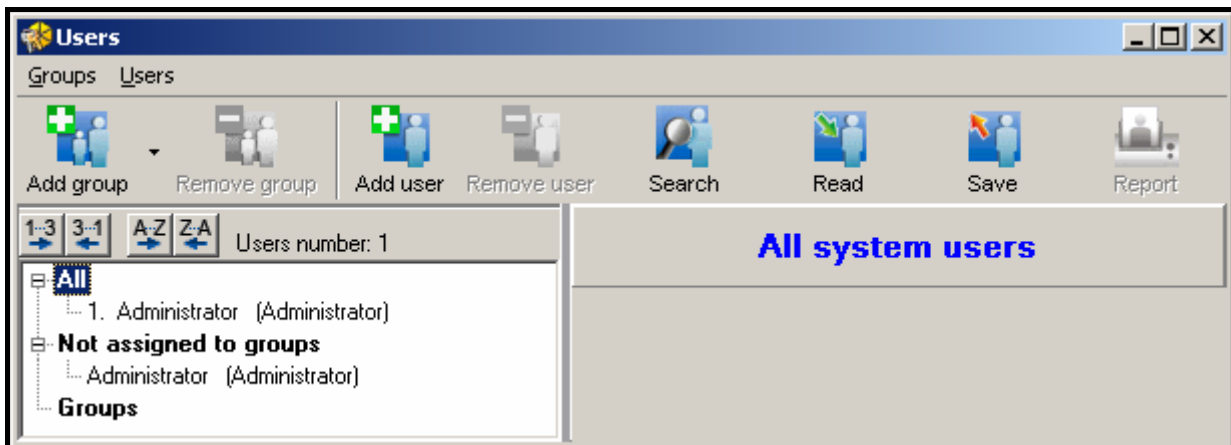

Fig. 24. View of the USERS window before adding the users.
1. Click with your mouse cursor on the button designated USERS, which is available on the program menu bar (see Fig. 22). The USERS window will be displayed (see Fig. 24).
20. End the procedure of user adding by clicking on the SAVE button (see Fig. 24).
1. Click with your mouse on the button designated USERS, available on the program menu bar (see Fig. 22). The USERS window will open (see Fig. 24).
1. Click your mouse on the USERS button on the program menu bar (see Fig. 22). The USERS window will open (see Fig. 24).
1. Click on the USERS button, available on the program menu bar (see Fig. 22). The USERS window will open (see Fig. 24).